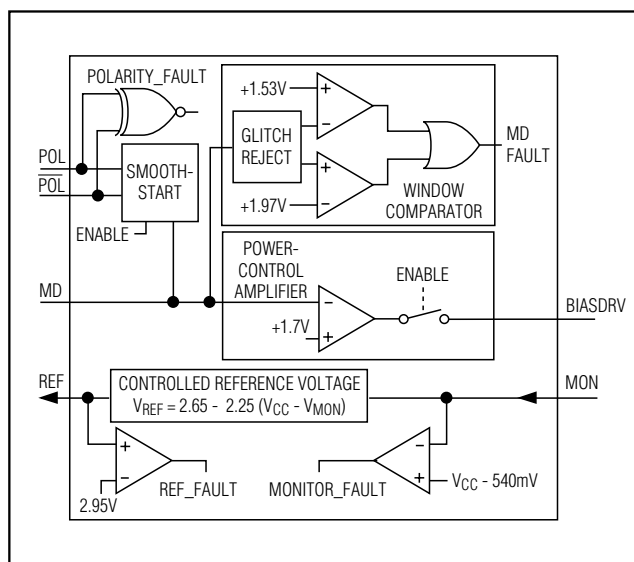

Figure 3. Bias Generator Circuitry
Figure 3 shows the bias generator circuitry containing a power-control amplifier, controlled reference voltage, smooth-start circuit, and window comparator. The bias generator combined with an external PNP or NPN transistor provides DC laser current to bias the laser in a light-emitting state. When there is a monitor diode (MD) in the laser package, the APC circuitry adjusts the laser-bias current to maintain average power over temperature and changing laser properties. The MD input is connected to